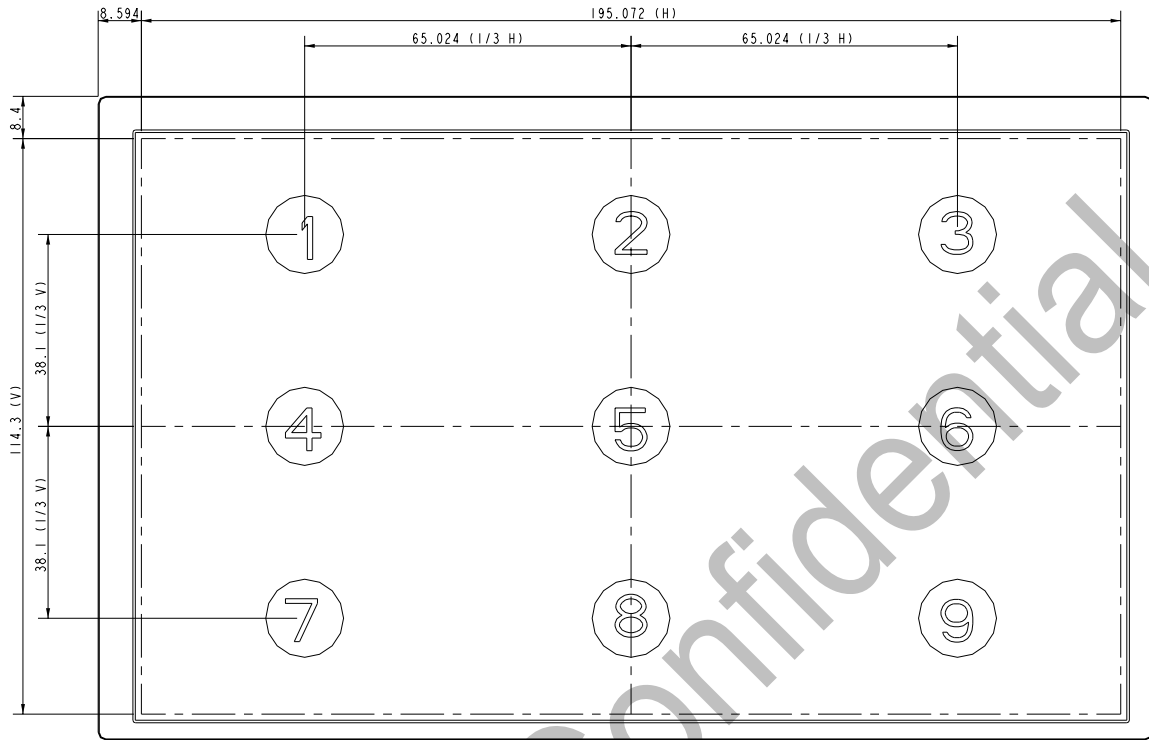

Fig. 8-1 Measuring point
- *3) Definition of Luminance: Measuring white luminance on the point 5 as figure 8-1
- Definition of Luminance Uniformity: Measuring white luminance on the point1 to 9 as figure 8-1